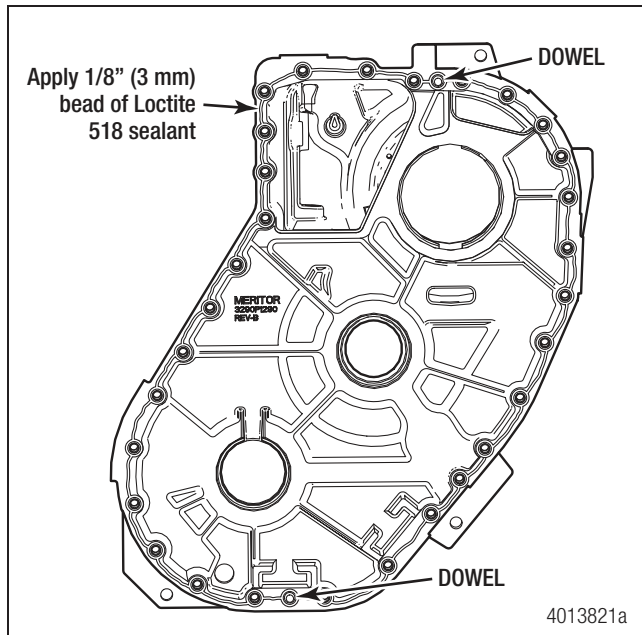

Figure 7.22
3. Apply a 1/8" (3 mm) bead of Loctite 518 sealant around the entire front case flange between each bolt hole making sure to encircle each hole. Figure 7.22.